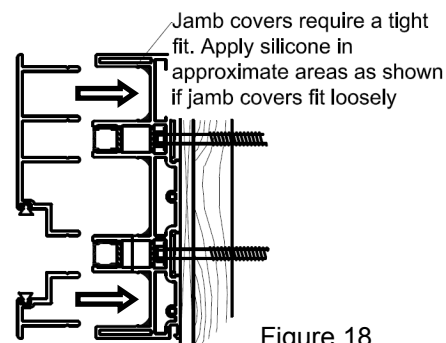

Figure 18
**Jamb covers/Screw Covers:** Install Jamb Covers (Items 10-13) until resting flush against jambs. Cut Screw cover (Item 6) to fit in Lock stile track above and below keeper (Figure 18).